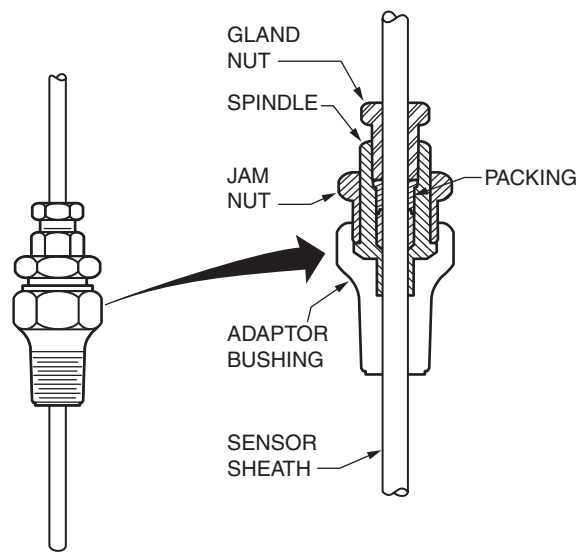

Figure 5. Packing-Gland Coupler
This coupler is for setting the insertion (U) length. It differs from the compression coupler in that it may be reset. The external thread of the bushing is 1/2, 3/4, or 1 NPT. Referring to Figure 5, install the thermocouple using this coupler as follows: